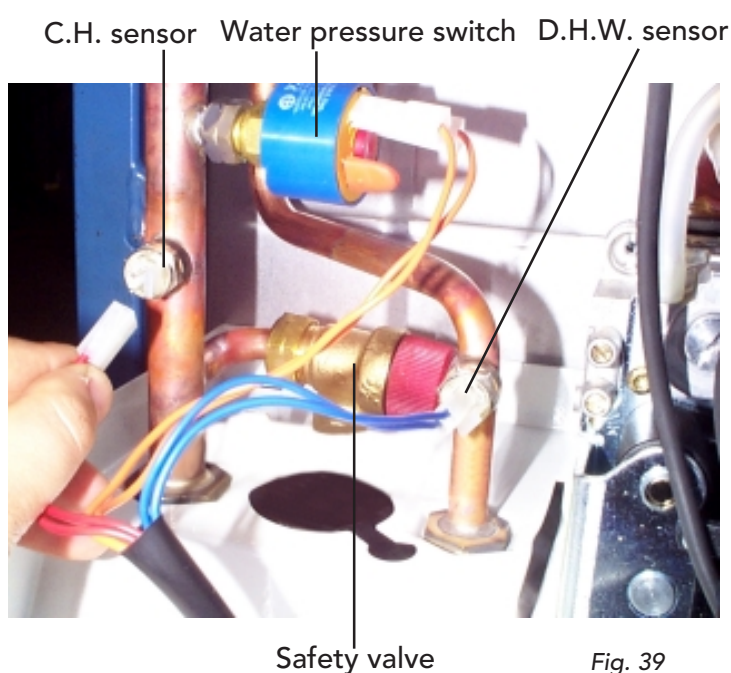

Fig. 39
7.07 D.H.W. temperature sensor or Central Heating Temperature Sensor (fig. 39)
- Identify the sensor from figure 39
7.11 Water Pressure Switch (fig. 39)
- Identify the switch from figure 39
7.12 Safety Valve (fig. 39)
- Identify valve from fig. 39